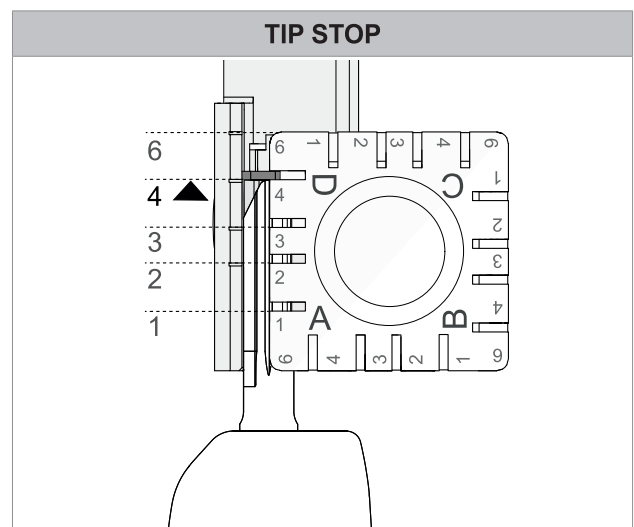
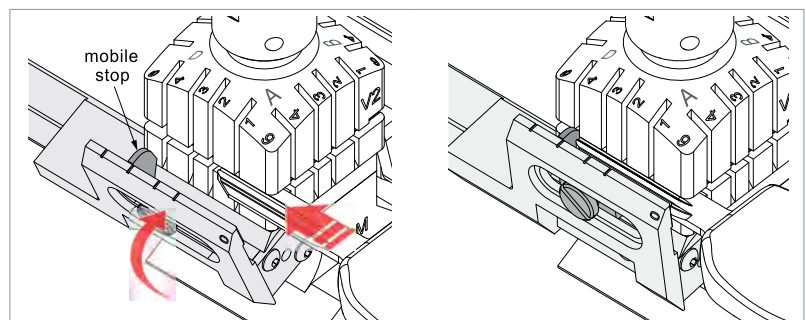

Fig. 50
Fig. 51 - mobile stop
- To fit keys with tip stops into the clamp, use the mobile stop on the gauge (Fig. 51) to be fitted into the special grooves (Fig. 50).